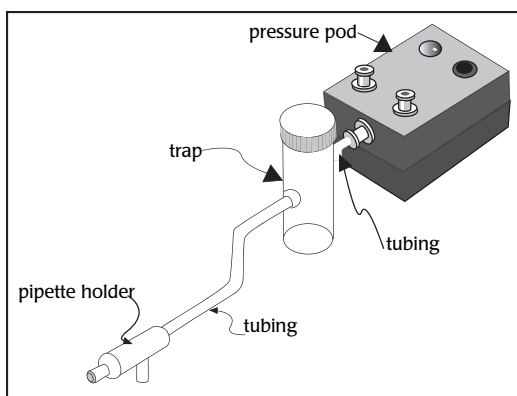

Fig. 5—The pipette assembly is attached to pressure pod.
8. Referring to Fig. 5, connect the pipette holder to the fluid trap.